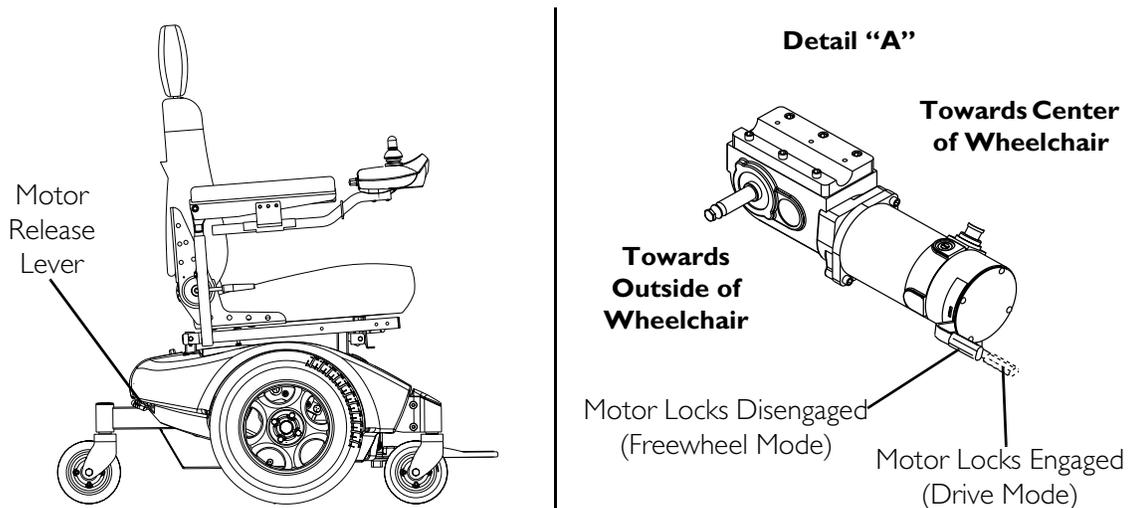

FIGURE 10.2 Engaging/Disengaging Motor Release Lever
NOTE: For this procedure, refer to FIGURE 10.2.
- A. To disengage the motor release levers - Slide the motor lock lever towards the outside of the wheelchair (free wheel position) as shown in Detail "A" of FIGURE 10.2.
- B. To engage the motor release levers - Slide the motor lock handles towards the center of the wheelchair (drive position) as shown in Detail "A" of FIGURE 10.2.